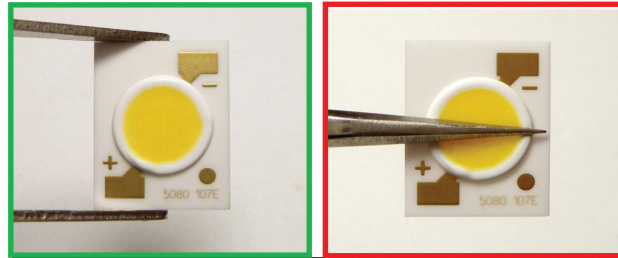

Figure 2. Pictures demonstrating correct (left) and incorrect (right) handling of a LUXEON CoB Compact emitter.
The LUXEON CoB Compact emitter is designed to maximize light output and reliability. However, improper handling of the device may damage the silicone coating and affect the overall performance and reliability. In order to minimize the risk of damage to the silicone coating during handling, the LUXEON CoB Compact emitter should only be picked up from the side of the package (see Figure 2).
In typical applications it may be difficult to measure the case temperature T_c directly. Therefore, a practical way to determine the junction temperature of a LUXEON CoB Compact emitter is by measuring the temperature T_s of a predetermined sensor pad with a thermocouple. Each LUXEON CoB Compact emitter has a circular sensor pad area in the lower right hand corner of the emitter. This sensor pad area is identified in Figure 2. Proper thermocouple attachment to the T_s or sensor pad area is shown in Figure 7.
The thermal resistance $R\theta_{(j-s)}$ between the sensor pad and the junction of the LUXEON CoB Compact emitter was experimentally determined. Figure 2 summarizes the typical thermal resistance values for each LUXEON CoB Compact emitter configuration.
2. Place the thermocouple tip on the sensor pad area T_s (see Figure 2 and Figure 7). The thermocouple must touch the substrate of the LUXEON CoB Compact emitter to ensure an accurate reading.